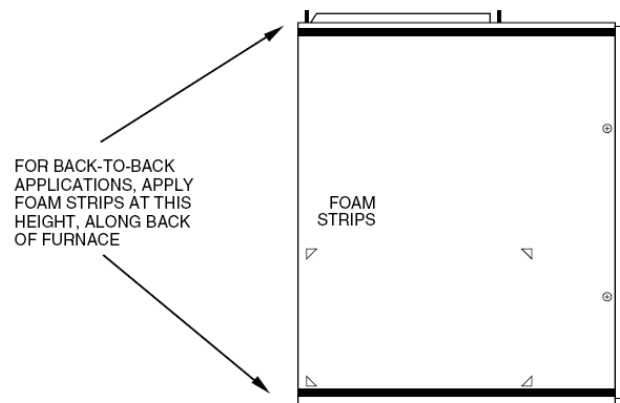

Fig. 5 – Location of Foam Strips
3. Apply two factory-supplied foam strips to mating side of one furnace. Locate strips equal distance from top and bottom as shown in Fig. 5.